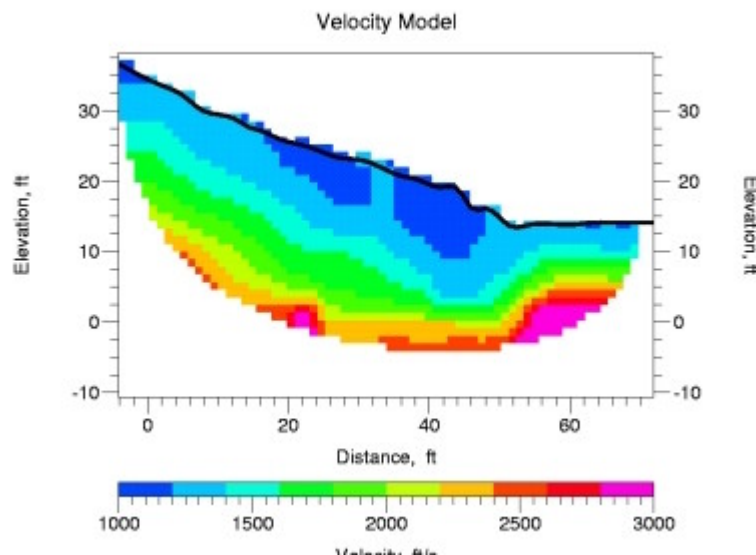

Figure 29c: Bitmap image created using steps 1-5. This can be imported into a MS-WORD document.
6. The bitmap image (Figure 29c) can then be imported into an MS-WORD document.